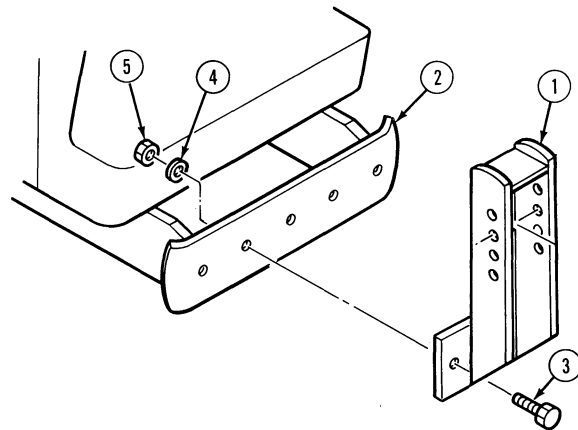

Figure 19
1. Attach the cylinder support, (1), to the tractor bumper, (2), using three 5/8" NC x 1-3/4" hex hd. bolts, (3), lockwashers, (4), and nuts, (5), as shown in Figure 19. Torque the bolts to 95-105 lbs.-ft.